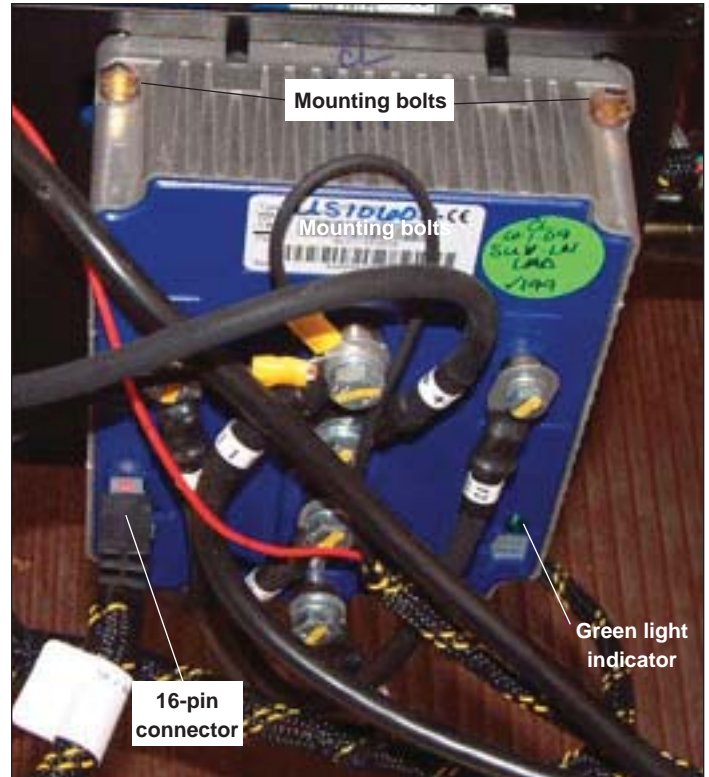

Figure 9-22. Controller Mounting
- Remove 16 pin controller connector at port B in the lower left hand corner of the controller (Figure 9-22). See *Columbia*
- Remove four nuts, washers and bolts securing controller to mounting plate. See Figure 9-22.
1. Position new controller to mounting bracket. Secure controller with four bolts, washers and nuts. Figure 9-22.
2. Install cables to controller terminals according to schematic, and to cable identification labels. Make sure there is a flat washer under the terminal ends of the cables. This will spread the load and help prevent the terminal ends from folding over. See Figure 9-22.